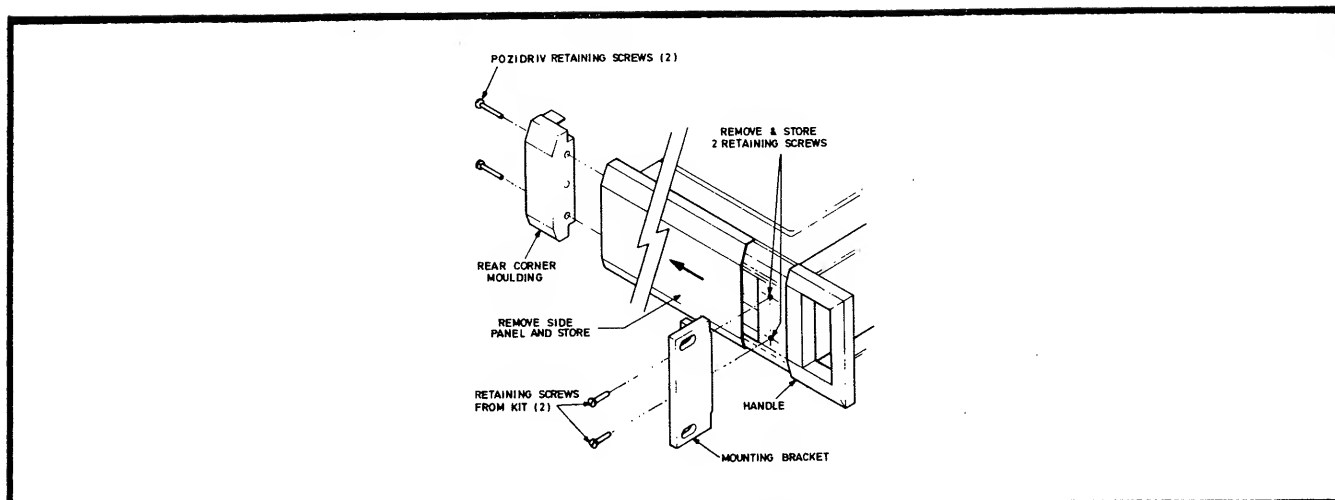

Fig. 3.1 Fitting the Fixed Rack Mounting Kit
- 3.2.1 The kit contains a pair of mounting brackets and four screws. The method of fitting the kit is shown in Fig. 3.1. The fitting procedure is as follows: